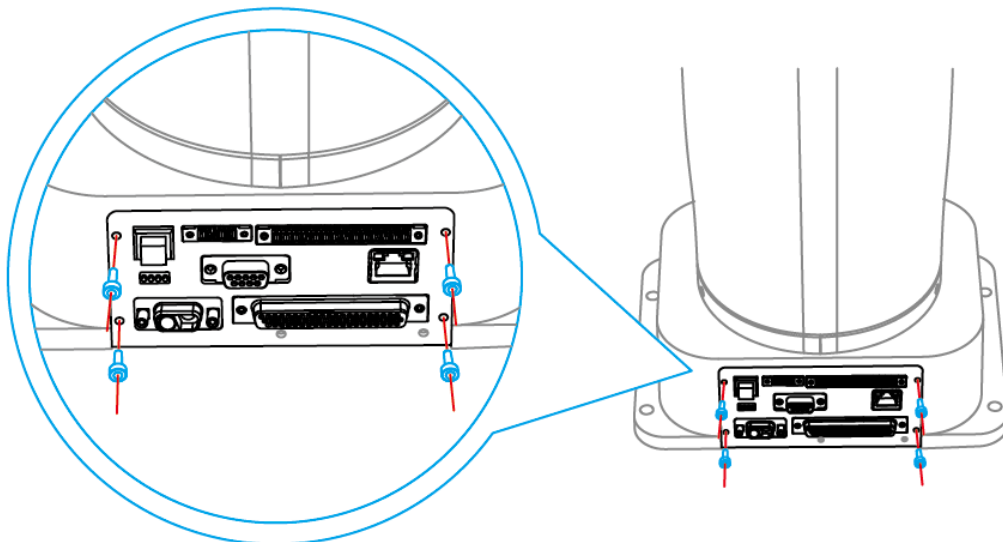

Figure 7.20 Interface board of the base
1. Loosen the four screws on the interface board of the base using a 2.5# hexagonal wrench, as shown in Figure 7.20.